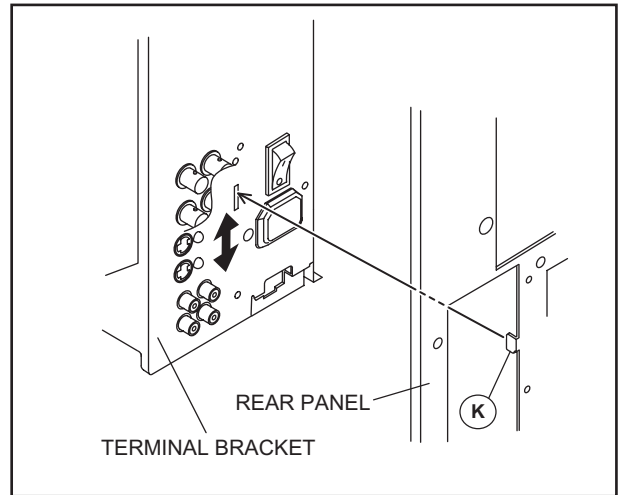

Fig.1
- (3) As shown in Fig.1, lift the rear panel and remove the claw [K] from the terminal bracket.
- (4) Shift the top portion of the REAR PANEL slightly rearward and raise it upward to remove it.
- (1) Press the [MENU] button and the [CHROMA /PHASE] button simultaneously.
- (2) The < SET-UP MENU > screen (Fig. 1) will be displayed.
- (3) Check the setting value of the each item of the < SET-UP MENU >. If value is different, select it and set the correct value.
- (4) Press the [MENU] button, and return to the normal screen.